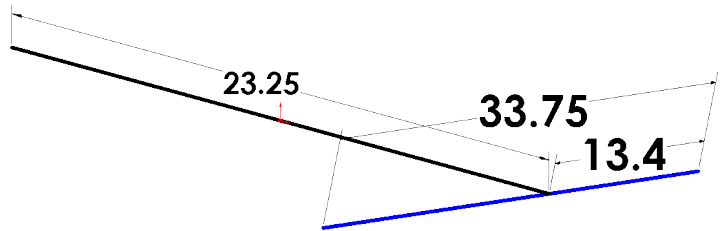

Fig. 7
Step 14. Click **Smart Dimension**  (S) on the Sketch toolbar.
Step 15. Dimension the **33.75** first, then **13.4**, **Fig. 7**.